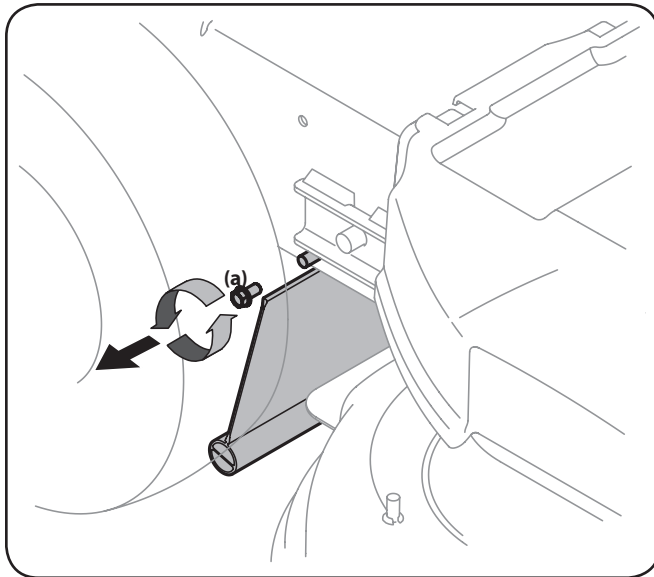

Figure 7-7
1. Remove the screw (a) which secures the trail shield to the right side of the mower. See Figure 7-7.